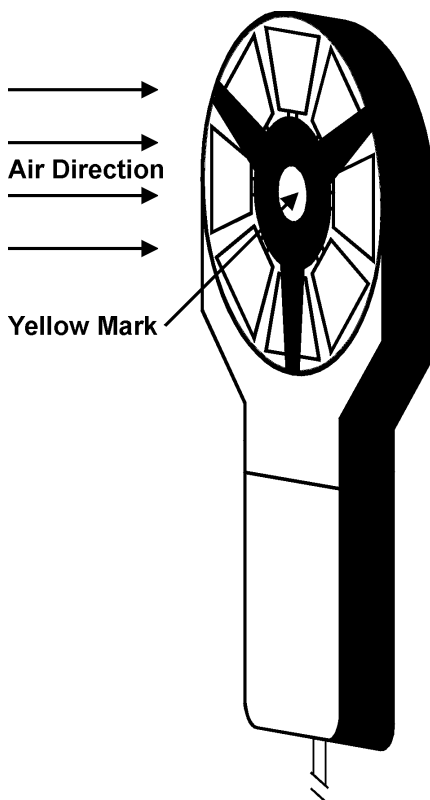

Figure 1: Air flow direction for correct air velocity measurement.
4. Hold the Vane Sensor with the yellow mark pointing towards the air flow source, as per Figure 1.